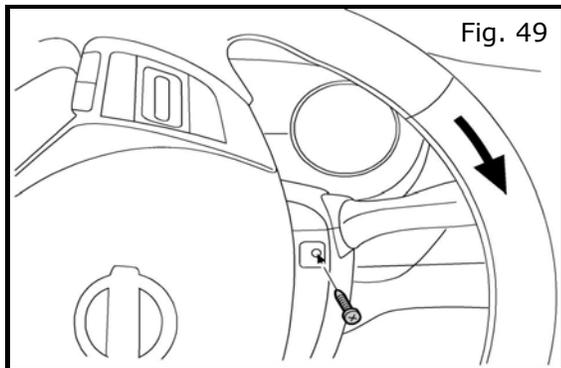

Fig. 49
- a) Rotate the steering wheel clockwise to access the right steering column cover screw as shown in Fig. 49.
- b) Install one (1) phillips head screw as shown in Fig. 49.